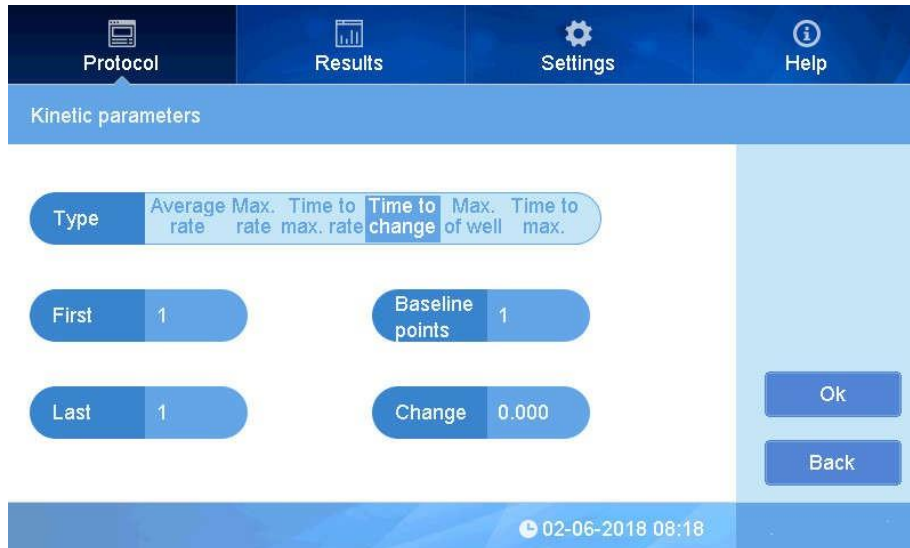

Fig.27
- At right side of interface , click “Parameters” to set(Fig 27).